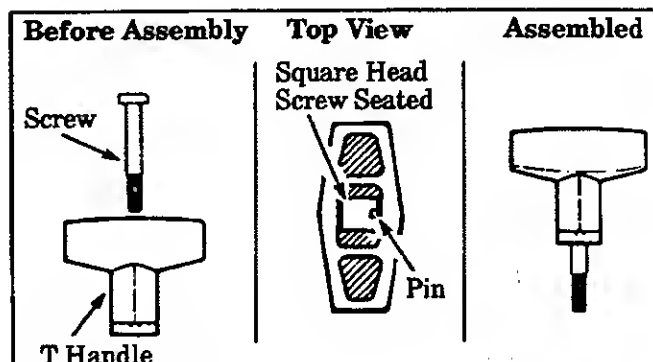

Figure 7
- c. Drop the threaded end of the square-head T-Handle Screw "C." through the opening in the top of the T-Handle. Figure 7.
- d. Pull on the threaded end of the Screw to bring the square head of the Screw past the pin inside the T-Handle. Figure 7.